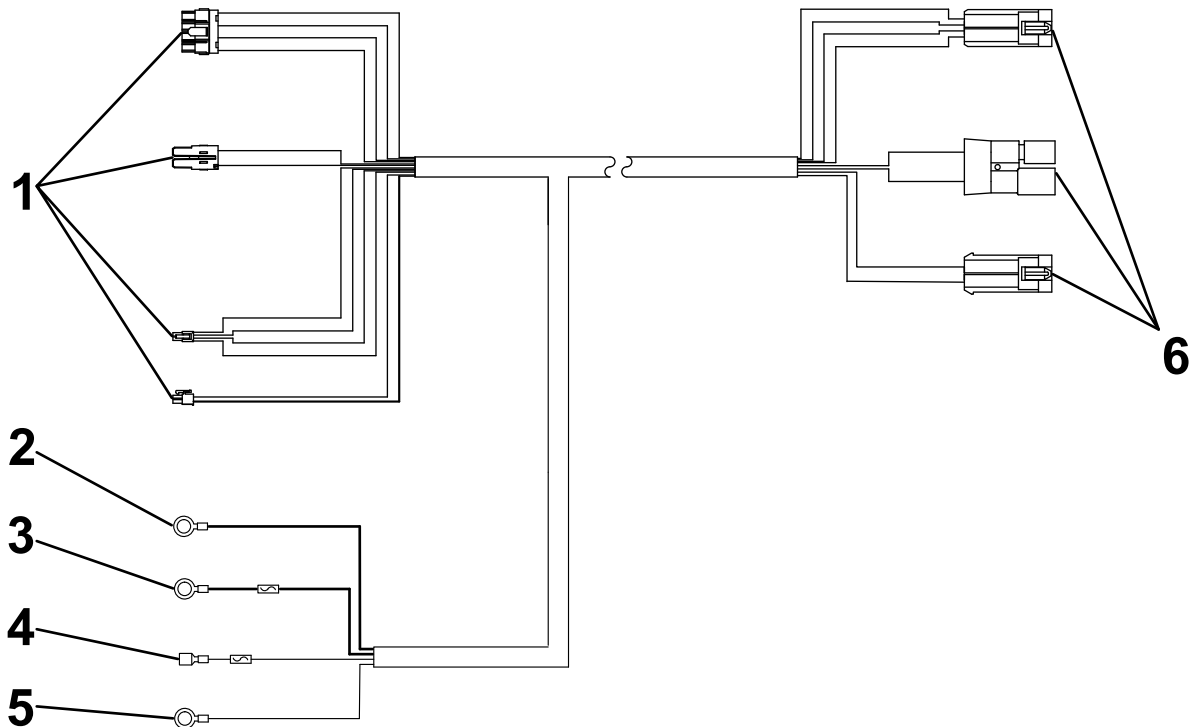

Figure 3
1. Secure the spreader connectors end of the vehicle wire harness (Figure 3) to the left side of the rear vehicle bumper with a cable tie.
4. Connect the black ring connector in the engine compartment to the negative (-) battery terminal (Figure 3).
5. Connect the red ring connector in the engine compartment to the positive (+) battery terminal (Figure 3).
6. Connect the spade connector to an ignition switch power source on the vehicle (Figure 3).
7. Connect the ground cable to the negative (-) battery post or chassis ground (Figure 3).